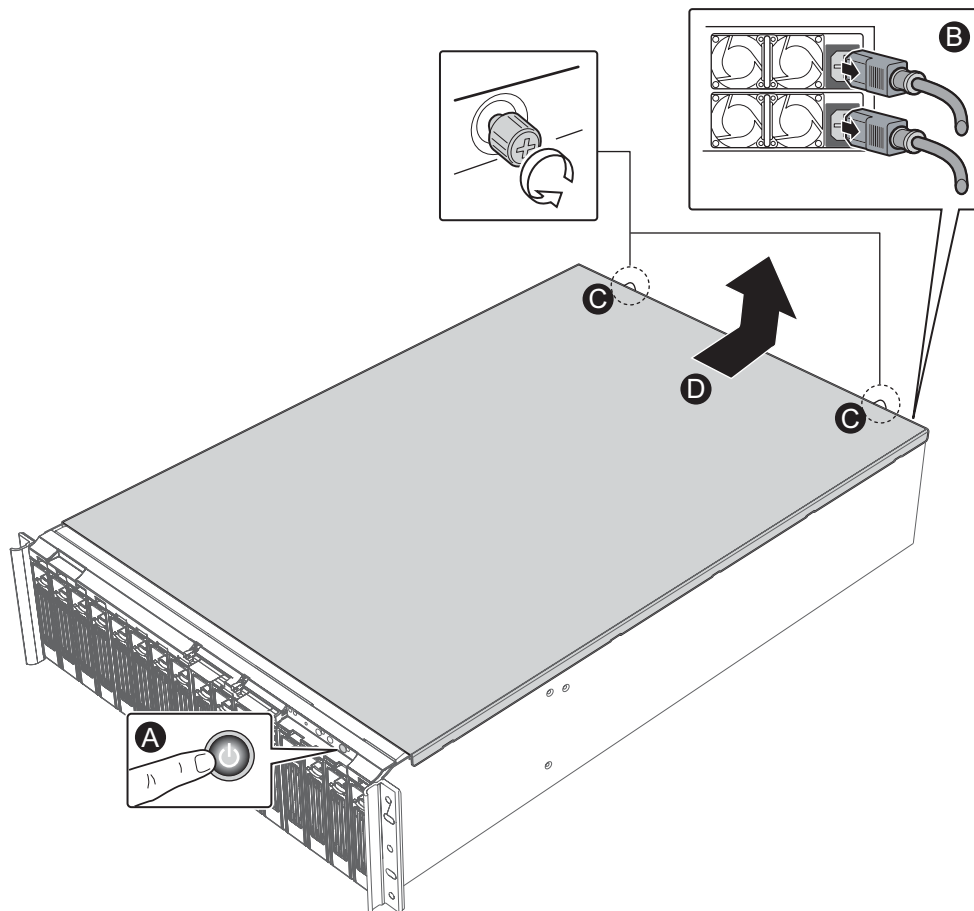

Figure 29. Removing Chassis Cover
- Remove both AC Power cords from the AC Power inputs on your system. See Figure 29.
- Loosen the two thumb screws from the top of the chassis cover. See Figure 29.